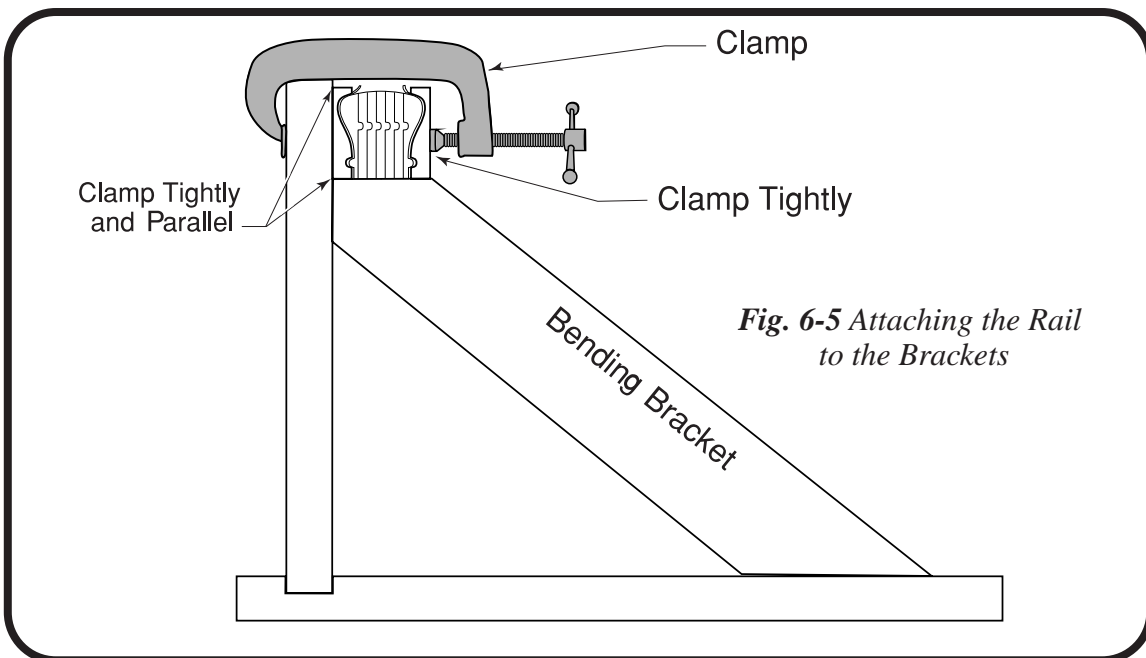

Fig. 6-5 Attaching the Rail to the Brackets
3. Make sure that the bending mold is pushed down tightly against the rail, and that the rail is “square” inside the molding. This will ensure the proper twist on the rail. Please note Fig. 6-5 here.